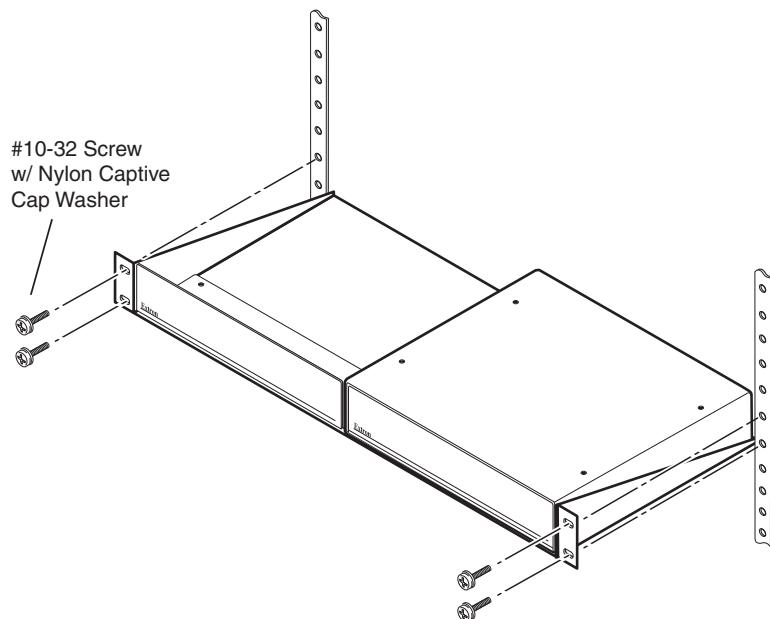

Figure 38. Mounting the Switcher
1. Attach the table or wall mounting brackets to the switcher with the eight #8 machine screws (figure 38).